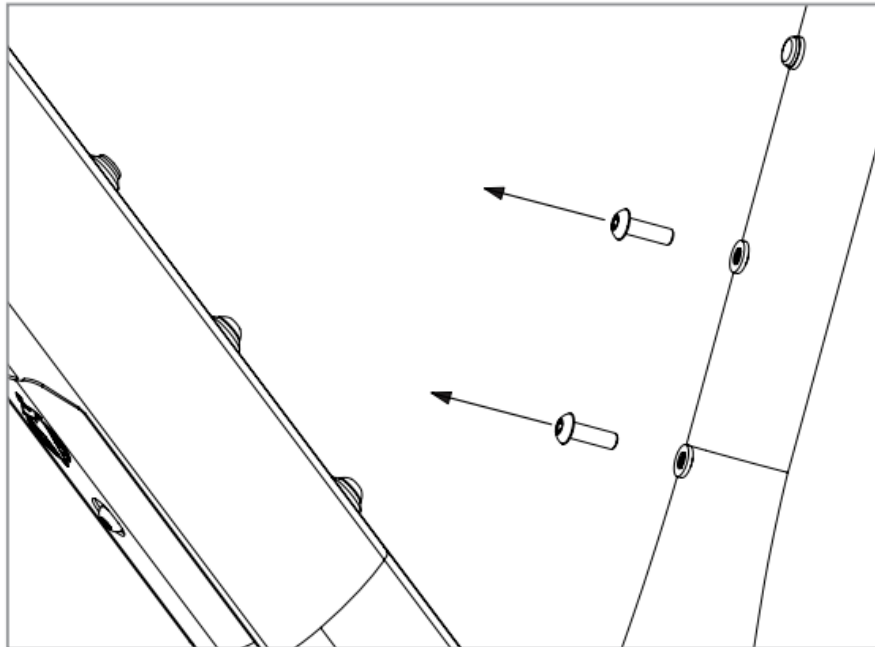

Figure 13
2. Use a 4mm hex key wrench to remove the water bottle cage bolts from the frame (Figure 13).